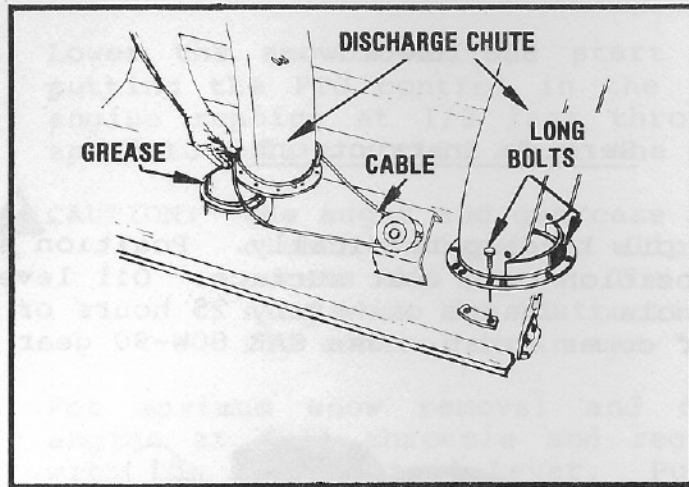

FIGURE 3
- 4.2 Grease discharge chute base shown in Figure 3, approximately once a season. The discharge chute must be removed to apply the grease.